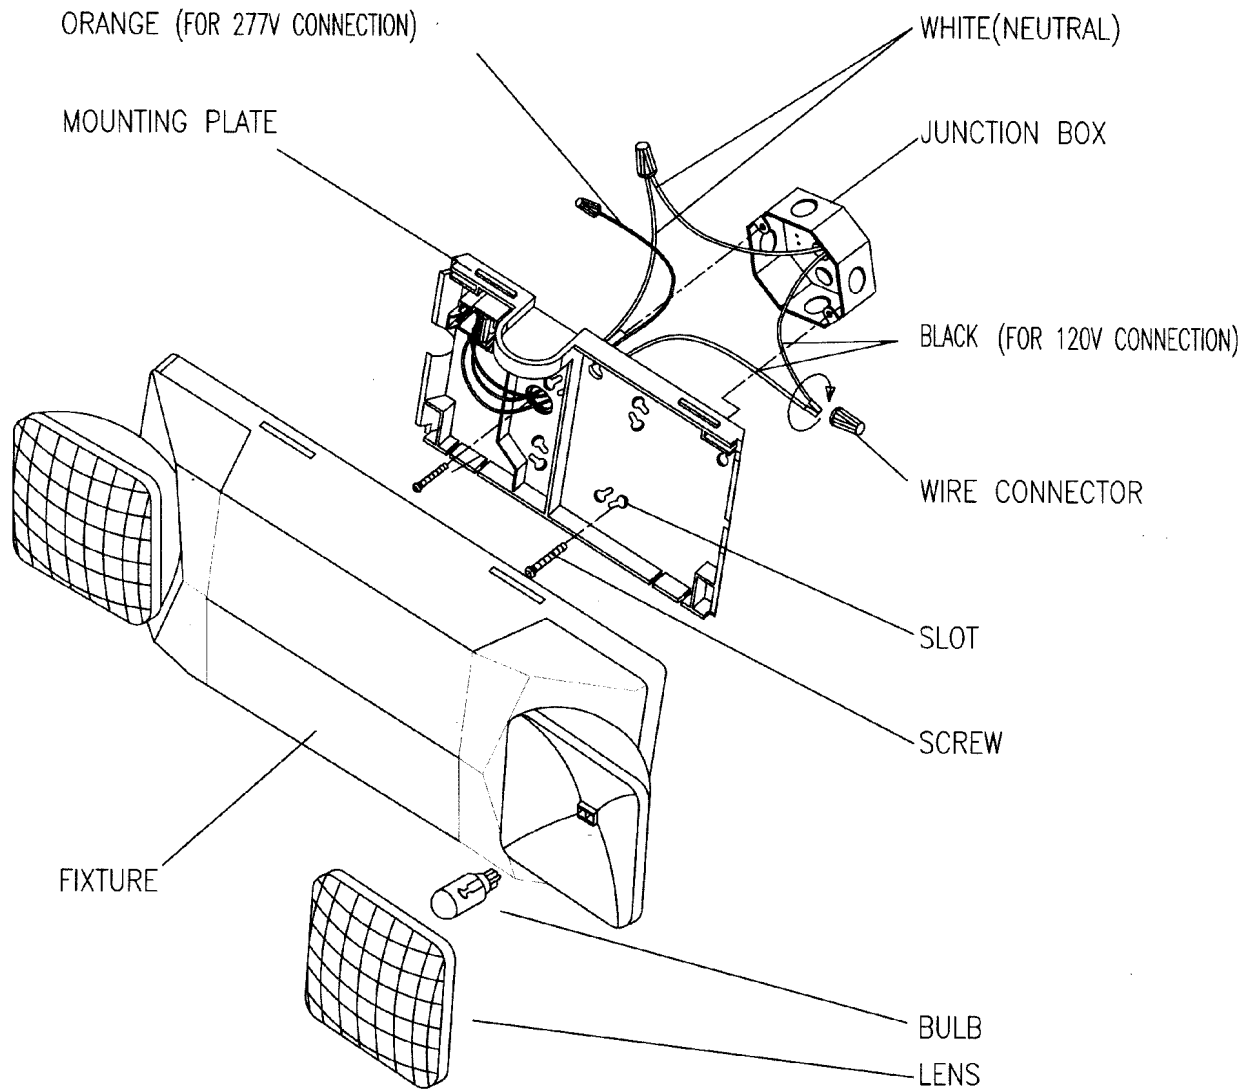

Fig.1
1. Remove mounting plate from fixture by prying with screwdriver (See Fig.1)
1. Remove mounting plate from fixture by prying with screwdriver gently. (See Fig.1)